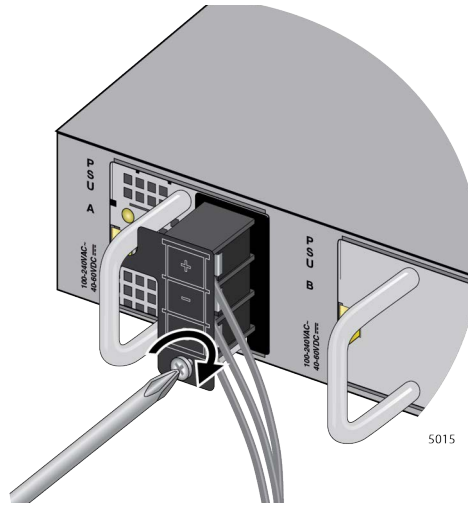

Figure 106. Tightening the Screw for the Cover Panel
9. Tighten the screw for the cover panel. Refer to Figure 106.